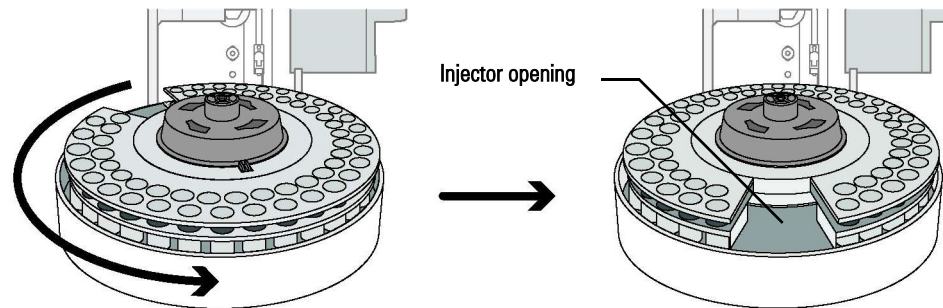

Figure 10 Rotate the turret so that the injector opening faces toward the front of the ALS
- 3 Rotate the turret so that the injector opening faces toward the front of the ALS (Figure 10).
- 5 While holding the turret in place, rotate the turret hubcap in a clockwise direction until it snaps into position on the turret hub. Make sure that the tabs on the turret hubcap align with the turret injector opening as shown in Figure 10.